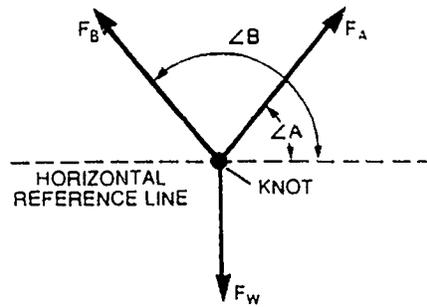

Fig. 2 Sketch of forces and angles.
6. Look at the drawing in Figure 2. It shows the knot with the three forces pulling on the knot. The forces are labeled F_A (toward position A), F_B (toward position B), and F_W (toward the hanging weight). Also, two angles are shown, angle A (often written as $\angle A$) and angle B ($\angle B$).
Now that you've taken your data, it's important that you learn a simple method of analyzing forces. Figure 4a shows a sample Data Table with a typical set of data. (The data you obtained with your setup will probably not agree with the data shown here.) Figure 4b shows the typical values on a sketch of the forces and angles involved in Figure 2.